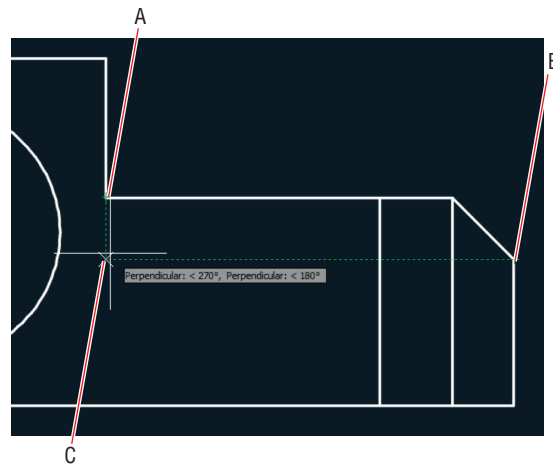

FIGURE 3.16 Drawing a rectangle by tracking its first corner
6. Click the Rectangle tool on the Draw panel. Move the cursor over the endpoint marked A in Figure 3.16 and, without clicking, move the cursor down to establish the first tracking line.
7. Move the cursor to point B in Figure 3.16 to track another endpoint. Move the cursor horizontally back to the intersection with the first tracking line, and click to establish the first corner of the rectangle (point C).